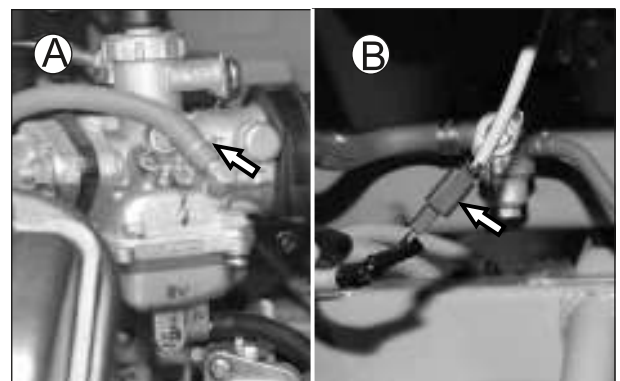

Fig. 5.81
- Disconnect hose fuel cock from carburetor (A). (Fig. 5.81)
- Disconnect fuel warning switch coupler from wiring harness rear (B) (wherever applicable). (Fig. 5.81)